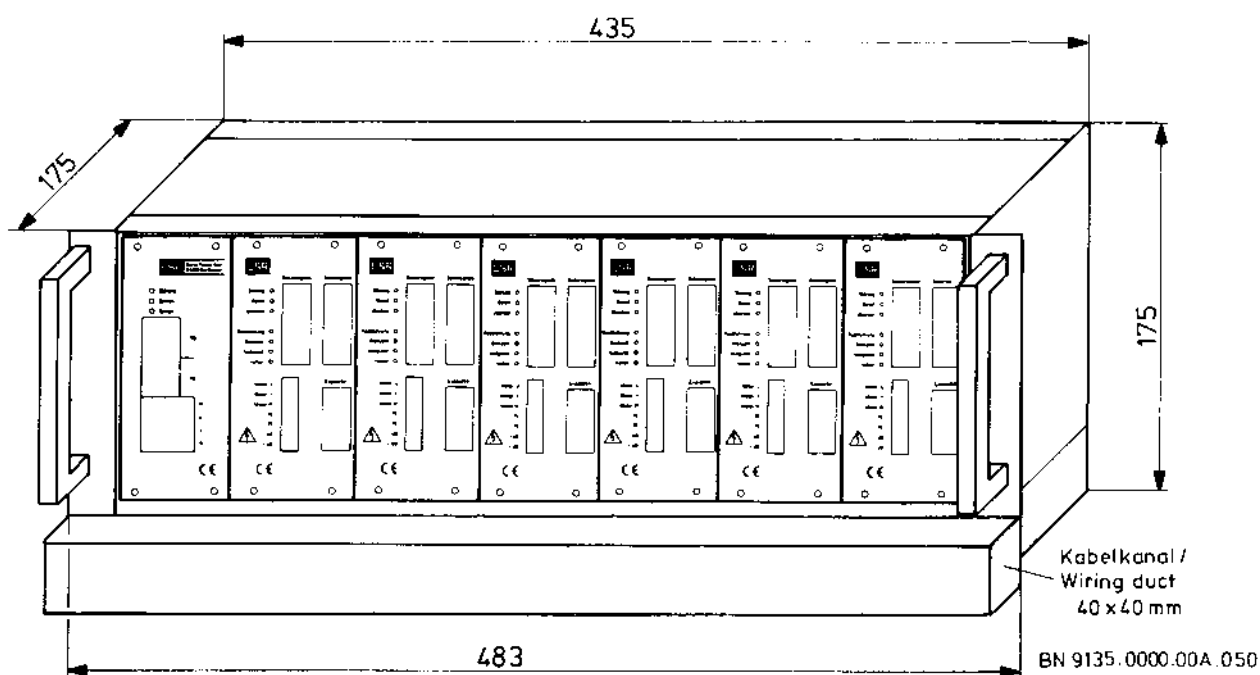

Fig. 8: Rack mount chassis 84 units wide for installation in 19" racks
Figure 8 shows a rack mount chassis 84 units wide for installation in 19" racks, fig. 9 a wall mount chassis of the same width for installation on a mounting plate, both fully equipped with one power supply and 6 amplifiers.
- 84 units wide for installation in 19" racks (fig. 8), in common 19" design, mounting flanges and handles at the front, order number 089074010Z,
- 84 units wide for installation in 19" racks (fig. 8), in common 19" design, mounting flanges and handles at the front, order number ,